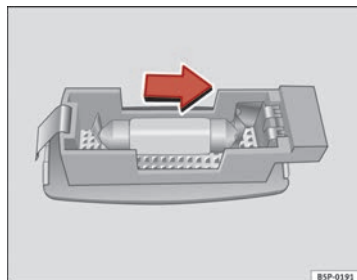

Fig. 203 Removing sun visor light
- Carefully remove the lamp, using the flat side of a screwdriver, as shown in the figure ⇒ Fig. 203.
- Remove the bulb, moving it in the direction of the arrow and outwards ⇒ Fig. 203.